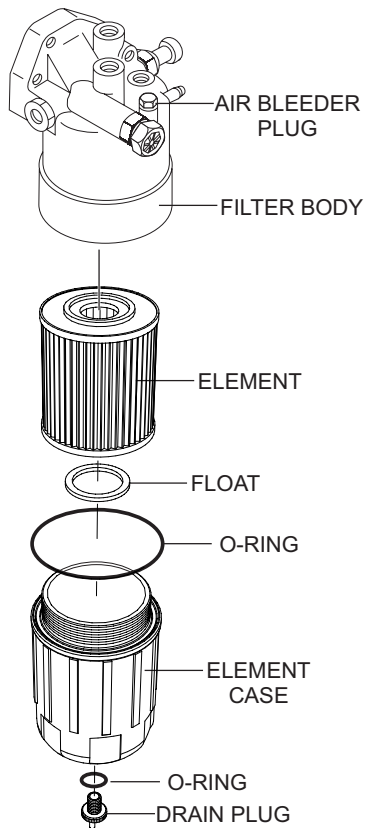

Figure 179. Fuel Filter Replacement
1. Using a **filter wrench**, remove the **element case** from the **fuel filter body** (Figure 179).
2. Wipe the inside of the **filter body** (Figure 179) with a clean cloth to remove any foreign matter or debris that may have accumulated.